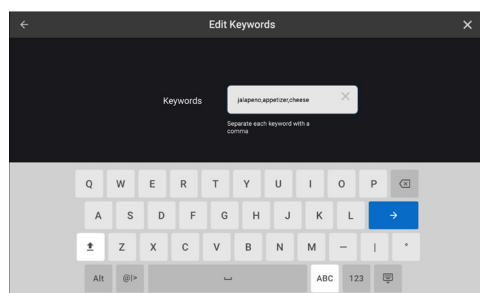

Figure 28: New Recipe Keywords
- Input keywords for the search option and touch the blue arrow button to continue (Figure 28).